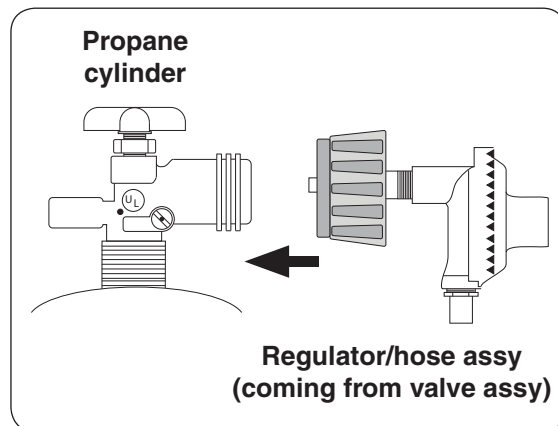

Fig. 19-1 Connecting to an L.P. cylinder
2. Attach the regulator end of the hose assembly to a propane cylinder (not included) and tighten (see Fig. 19-1).